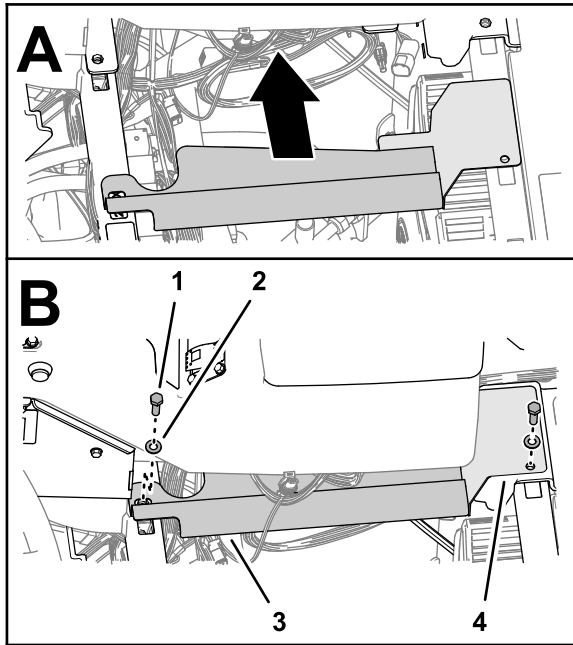

Figure 256
7. Align the hole in the bottom console cover to the hole in the shock-support tube and the hole in the end console cover to the hole in the cross-member tube (Figure 256).
8. Secure the covers to the tubes (Figure 256) with 2 cap screws (5/16 x 1 inch) and 2 washers (5/16 inch).